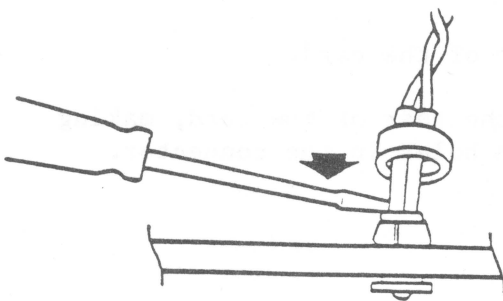

FIGURE 7
- a. Slip the LED back in its holder and snap it into place with a screwdriver (Fig. 7).